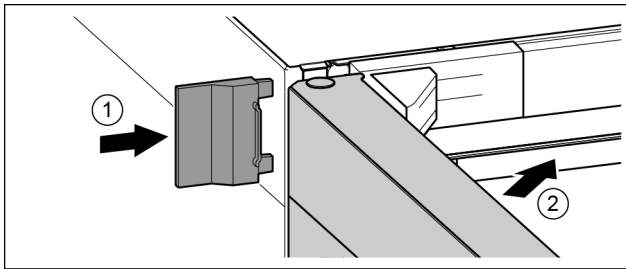

Fig. 25
- ▶ Slide on the external cover. Fig. 25 (1)
- ▶ Close the upper door. Fig. 25 (2)